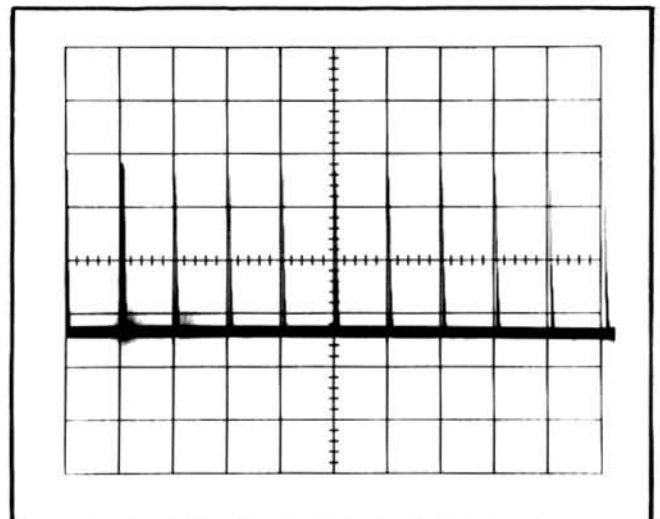

Fig. 5-8. Typical CRT display showing correct setting of delay start.
c. CHECK—The intensified portion of the sweep starts at the second marker (see Fig. 5-8).